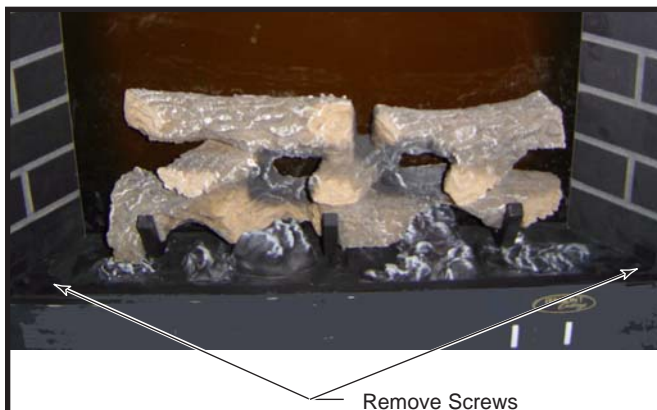

Fig. 5 Remove screws that hold refractory bracket with ember bed.
4. Locate two (2) screws that hold the refractory (brick patterned) bracket together with the ember bed. (Fig. 5)
5. Remove those two (2) screws using an appropriate screwdriver. One screw is located on either side of the unit.